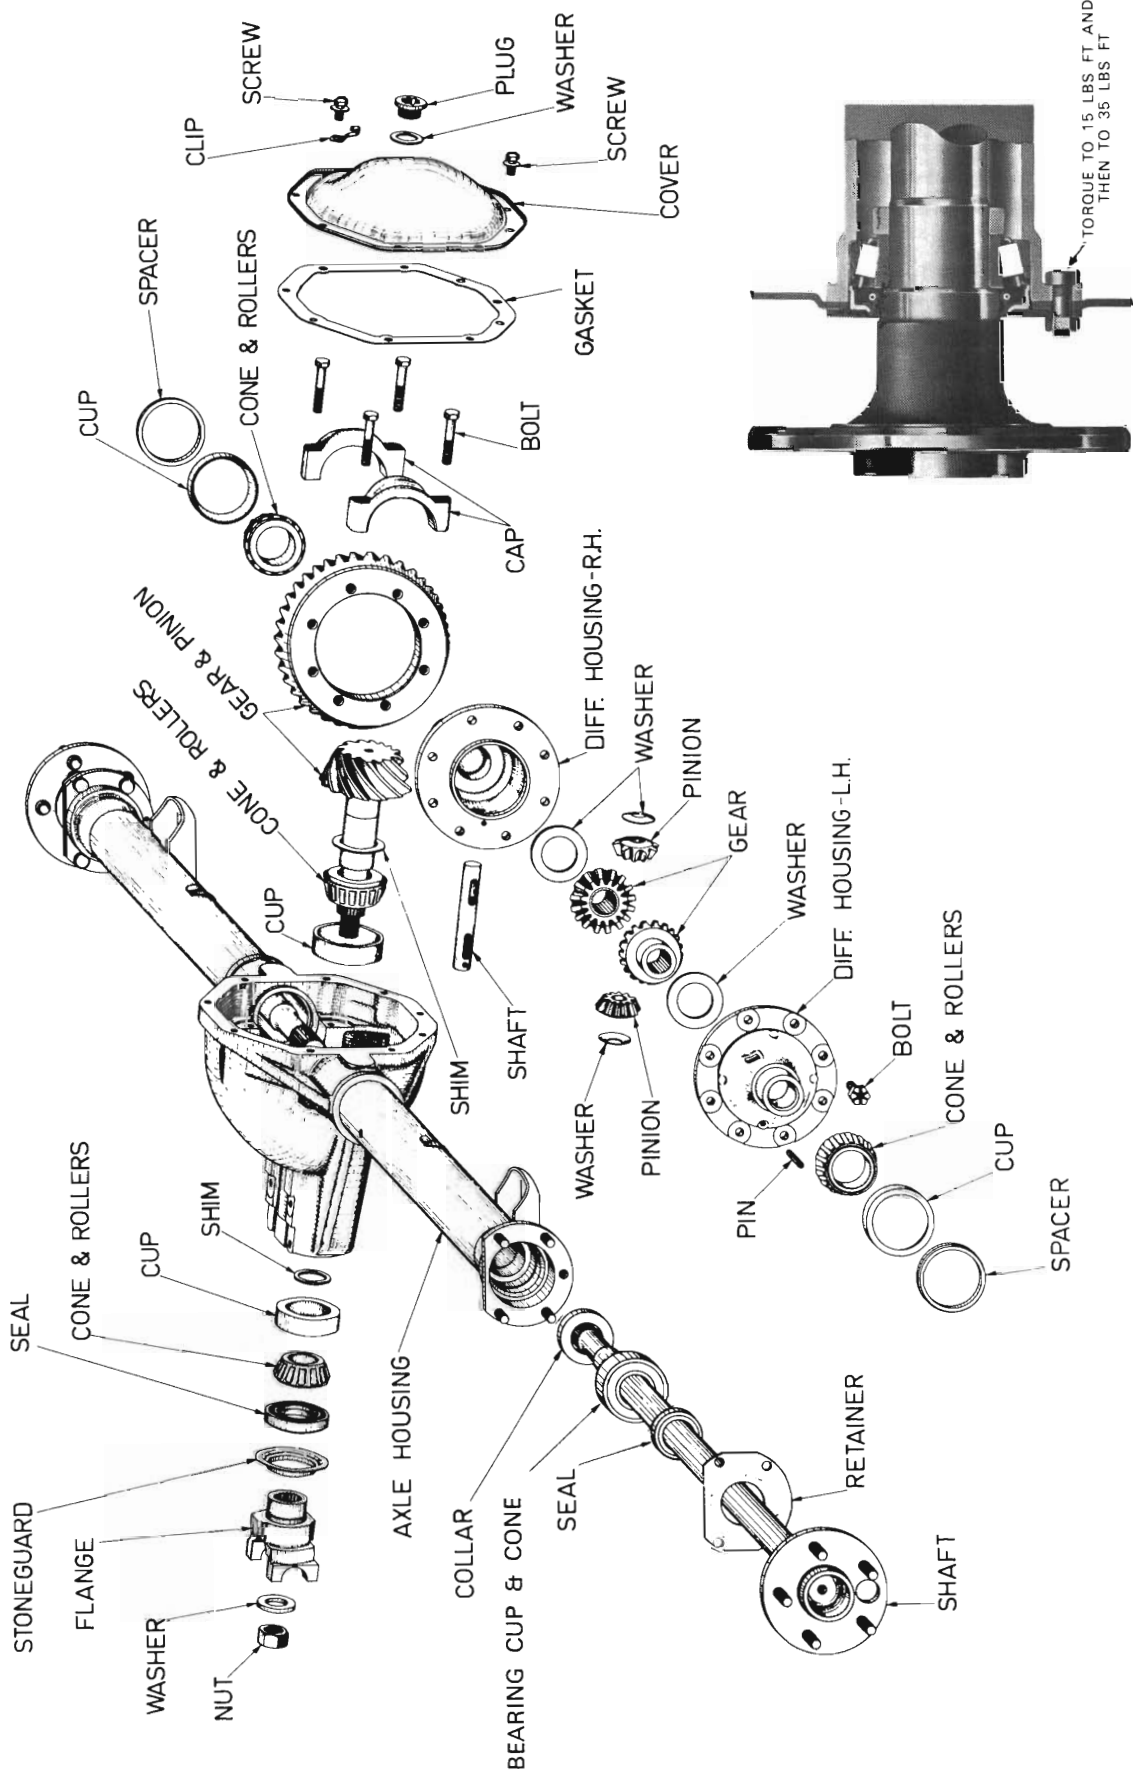
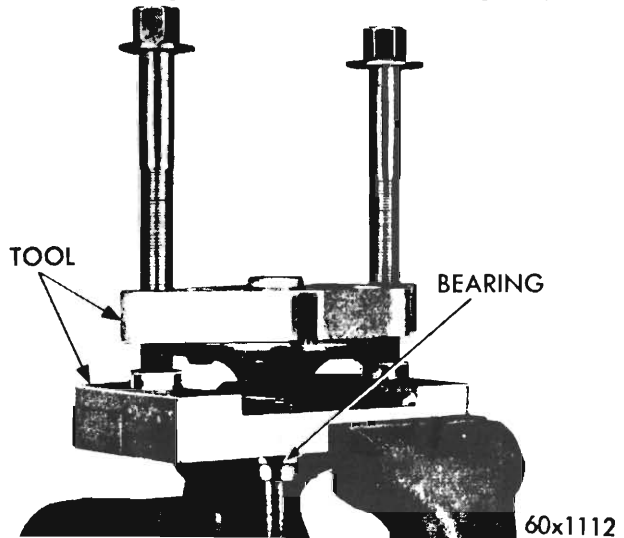

Fig. 3 - Rear axle assembly (typical view)
Fig. 10 - Removing the axle shaft bearing cone and collar using Tool E3C20C.
The rear axle housing (*see Fig. 3*) is a one piece assembly. The drive pinion and the differential case with drive gear are mounted directly to the centre (carrier) section of the housing assembly. Access to the differential, drive gears and carrier bearing is obtained by removal of the carrier cover. Axle shafts and the pinion oil seal can be removed without removing the assembly from the vehicle, but the unit should be removed for any additional operations.
Should it become necessary to remove the rear axle for overhaul or repair (*see Fig. 3*) proceed as follows:
**NOTE:** The oil seal is outboard of the bearing cone and will be removed with the axle shaft — The bearing cup may become detached from the bearing and remain in the housing — refer Fig. 3 inset.
(2) Assemble the bearing remover (Tool E9C20C) jaws of puller between the seal and the bearing cone, *ensuring* that the pressure of the tool is applied to the *shoulder* of the cone (*not* upon the rollers) (*refer Fig. 10*) or the sealing surface (*refer Fig. 3*).
(3) Install the tool base to the axle flange nuts to direct the screw pressure upon the two pads of the jaws.
(2) Apply a small volume of bearing lubricant to the cavity between the seal lips and carefully position the seal on the shaft seal surface with the flat side of the seal toward the retainer plate.
(3) Place the lubricated bearing on the axle shaft ensuring that the cup *rib-ring* is toward the retainer plate. (Refer Fig. 3 insert).